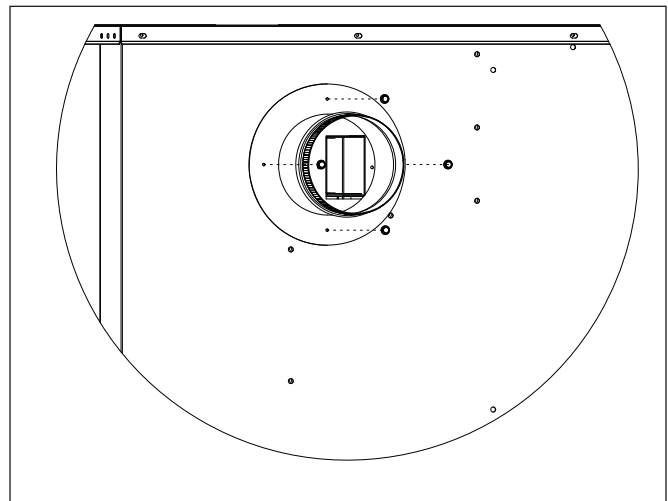

Figure 4. Start Collar Attachment
7. Install the start collar on the unit using four self drilling screws. Do this carefully so as not to cover any portion of the unit's rectangular exhaust cutout. See Figure 4.